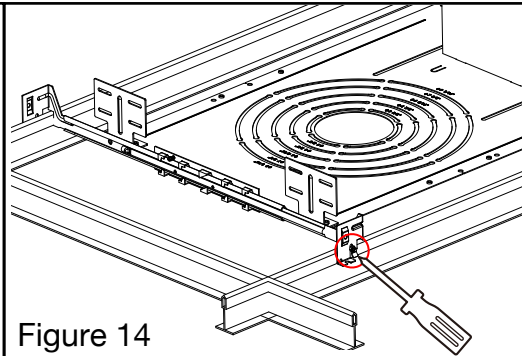

Figure 14
3. If required by code, connect the bar hangers to the T-grid with self-tapping sheet metal screws. (Fig.14)